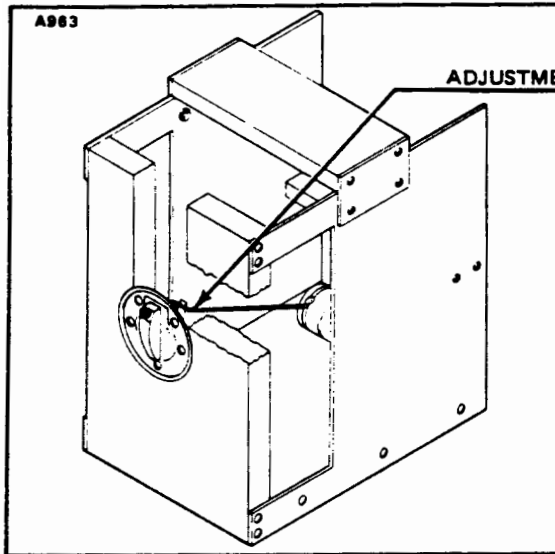
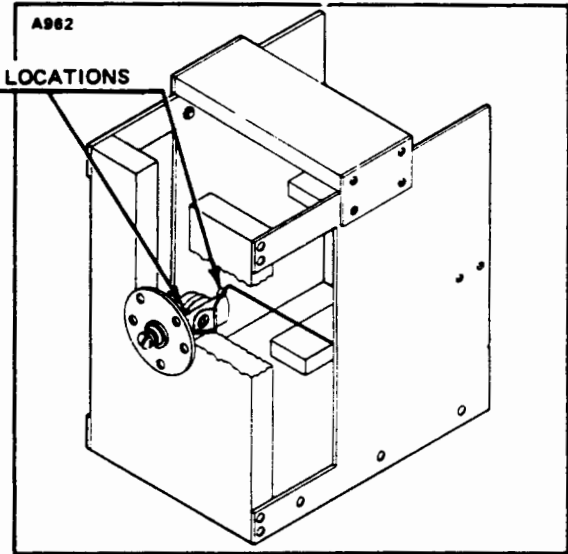

Figure 9-6. Fuel Quantity Transmitter (P/N 62037-00)
Figure 9-7. Fuel Quantity Transmitter (P/N 68101-00)
9-16. CHECK AND ADJUSTMENT OF FUEL QUANTITY TRANSMITTER UNIT. (Refer to Figure 9-6 or 9-7.)
2. Ascertain that with the float arm down against the mechanical stop on the transmitter, the float is just touching (The float may be to .18 of an inch above base.) the base of the jig. Should the float not be touching the base or the float arm is not against the bottom stop, adjust the arm of float assembly, P/N 62037-00, by bending it at the location as indicated in Figure 9-6 or the arm stop of float assembly, P/N 68101-00, by bending it where shown in Figure 9-7. (On rubber type floats, the entire surface of the float must be horizontal with the base of jig.)